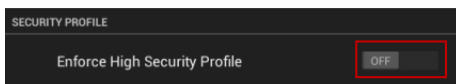

FIG. 79 SECURITY PROFILE - Enforce High Security Profile option
1. On the *SYSTEM > Security Settings* page, toggle the **Enforce High Security Profile** option to **ON** (FIG. 79): .